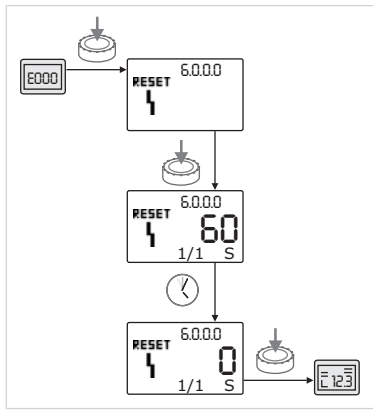

Fig. 48: Acknowledging error type A or D
- If type A or D errors occur, proceed as follows to acknowledge (Fig. 48):